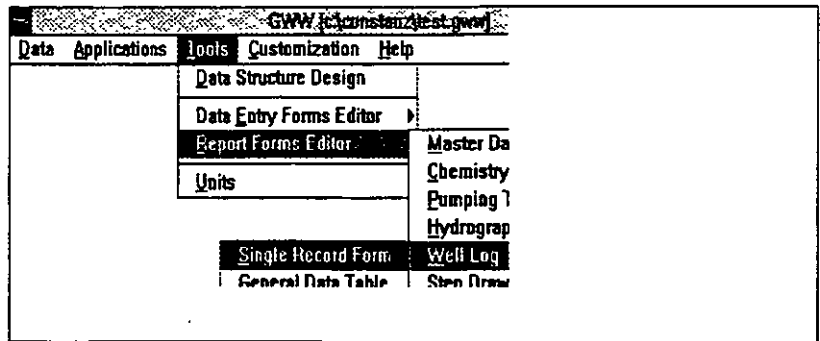

Figure 3-1
4. Select single or table (general data) report (see Figure 3-1).